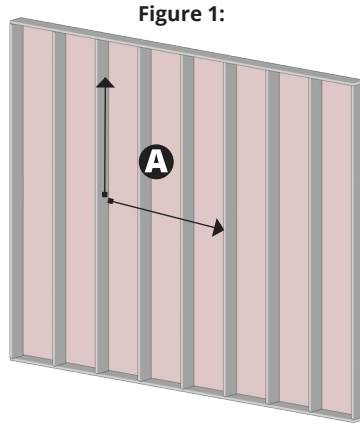

Figure 1:
3. Using chart on previous page, determine required rough opening (RO) dimension (A) and remove wall studs as needed. (Fig. 1 & 2)